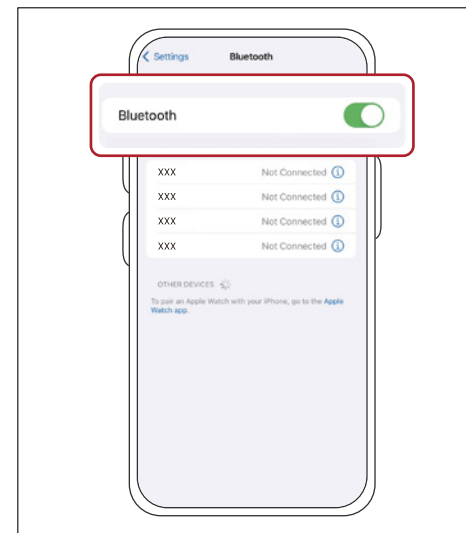

Fig.16
- 3 Turn on the Bluetooth® on your smartphone (see **Fig.16**).